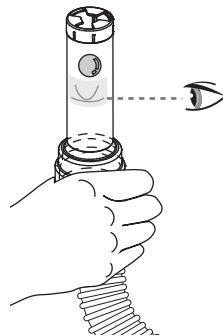

fig.6
- Keep the airflow indicator vertically aligned with your eye level for an accurate reading. Wait for 3-5 minutes until the floating ball stabilizes. Check if the floating ball is at or above the marking on the airflow indicator (See fig. 6)